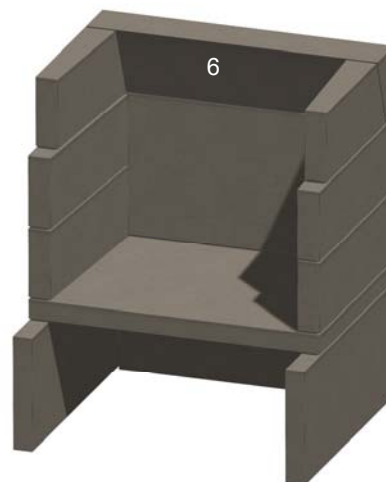

Figure 16. Back Header
H. Install Back Header (6). See Figure 16.